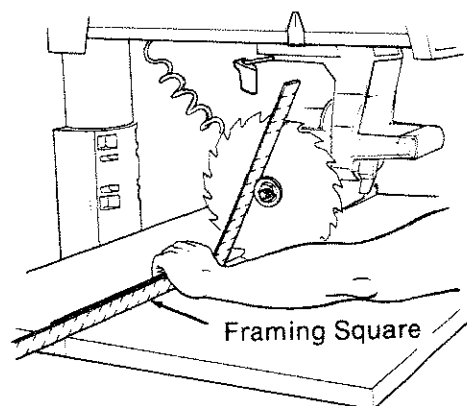

Fig. 60-A - Squaring Blade to Fence
1. Put the *radial arm* in the 0° miter position with the *blade* just in front of the *fence*. (Figure 60-A)